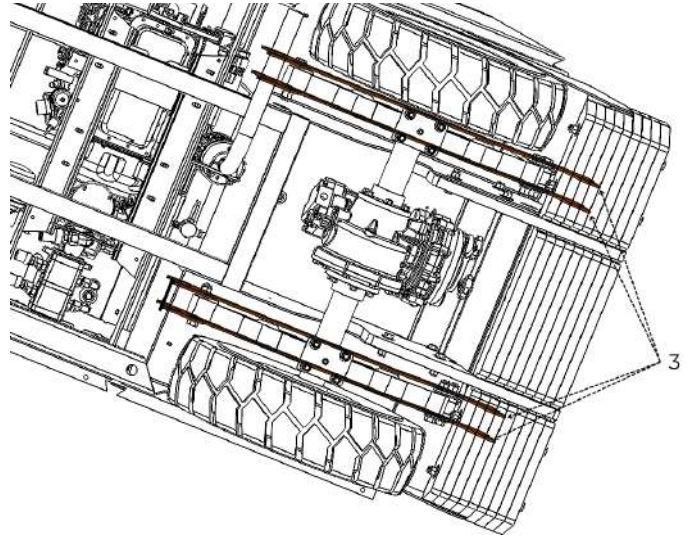

Figure 34. Suspension Mounting Tabs.
- Suspension mounting tabs (2) (see Figure 34).